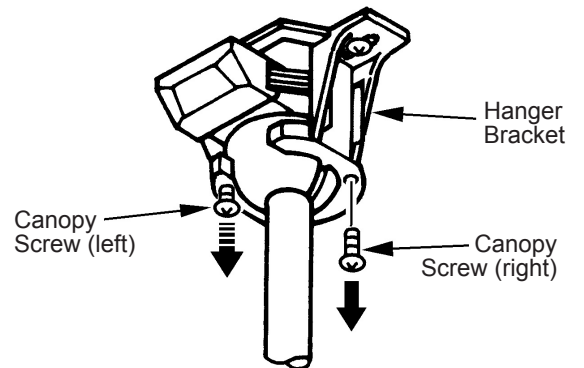

Figure 5.9
Step 9. Loosen the left Canopy Screw and remove the right Canopy Screw on the bottom of the Hanger Bracket. (Fig. 5.9)